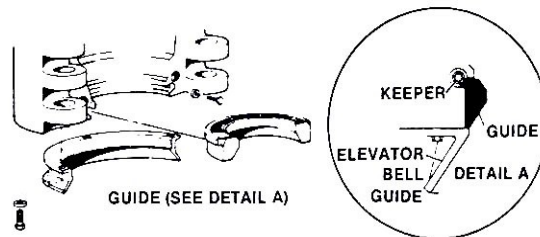

Figure 7: Elevator Bottom Guide Installation
- 5) Install guide halves and retain with guide keepers and bolts (Figure 7).